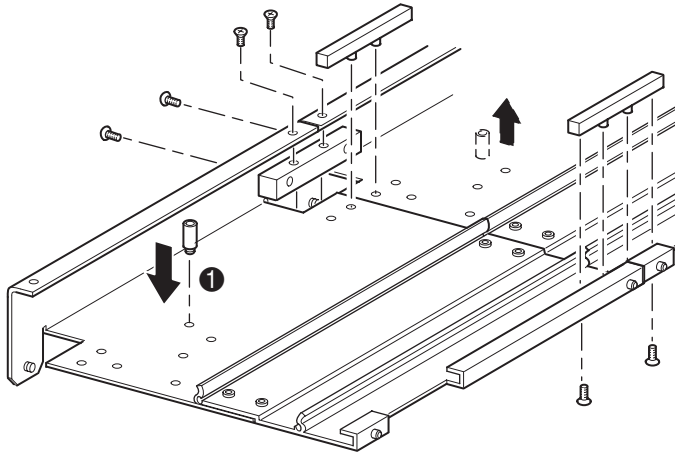

Figure 2-12. Installing tie bars
- b. Align the pins of the two narrow tie bars with the holes in the extension and PTM base unit (see Figure 2-12) and then attach them using four mounting screws (two screws for each narrow tie bar).
- c. Attach the large tie bar (beveled edge to the inside corner of the PTM base unit and extension) using four mounting screws (see Figure 2-12).
9. Remove the bottom stop standoff from the PTM base unit and then attach it to the extension in the corresponding mounting hole (❶, Figure 2-12).